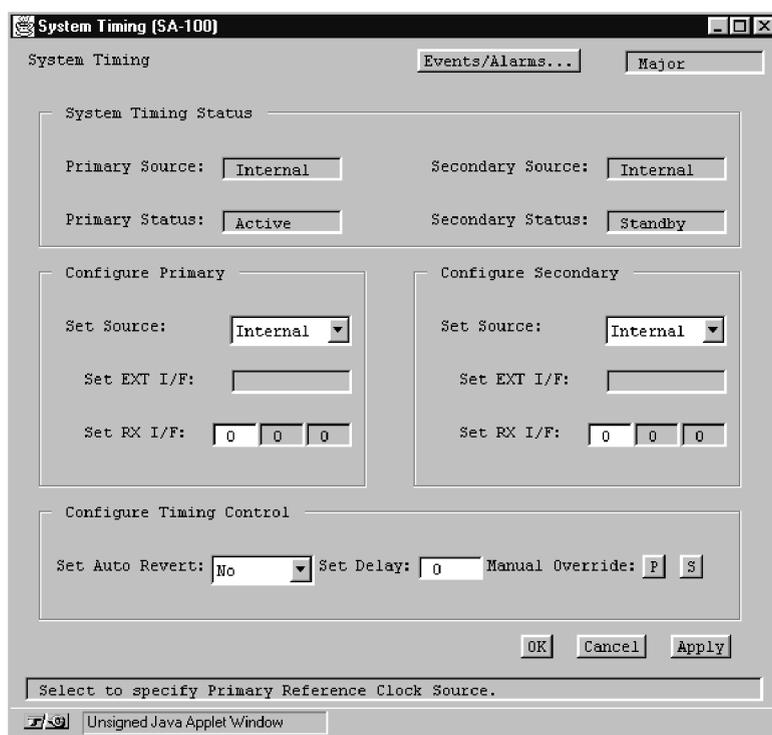

Figure 3-5. System Timing Window
1. Choose the System Timing button from the System Administration window. The System Timing window appears (see Figure 3-5).